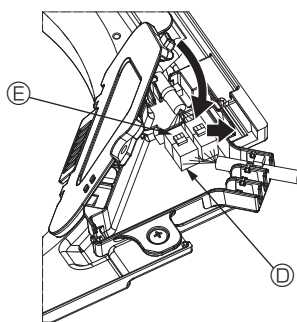

Fig. 10-9
- ③ Close the connector box cover.
- When closing the connector box cover, slide the cover in the direction indicated by the arrow and make sure that the projection is firmly inserted. (Fig. 10-9)